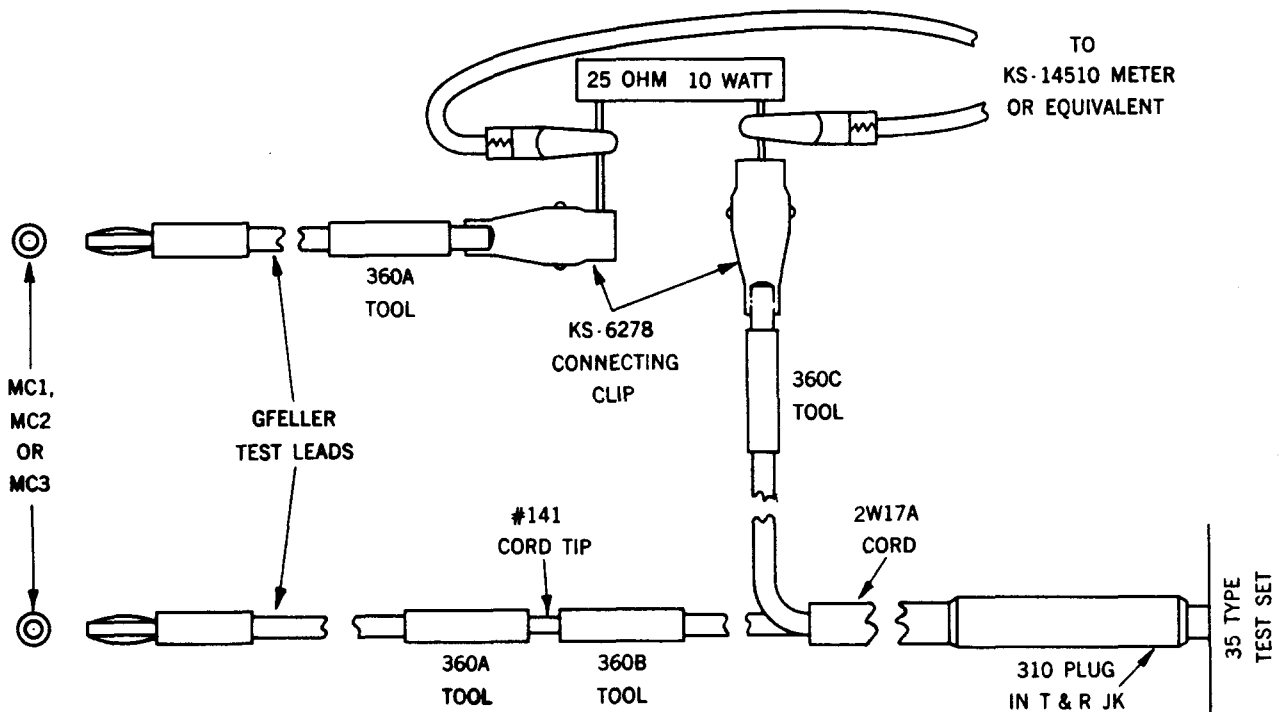

Fig. 2
**2.002** Preparation of the 35-type test set for ac requirements used with the marking relays RA through RF as shown in the circuit requirement table, shall be in accordance with Fig. 2 and the steps given as follows: